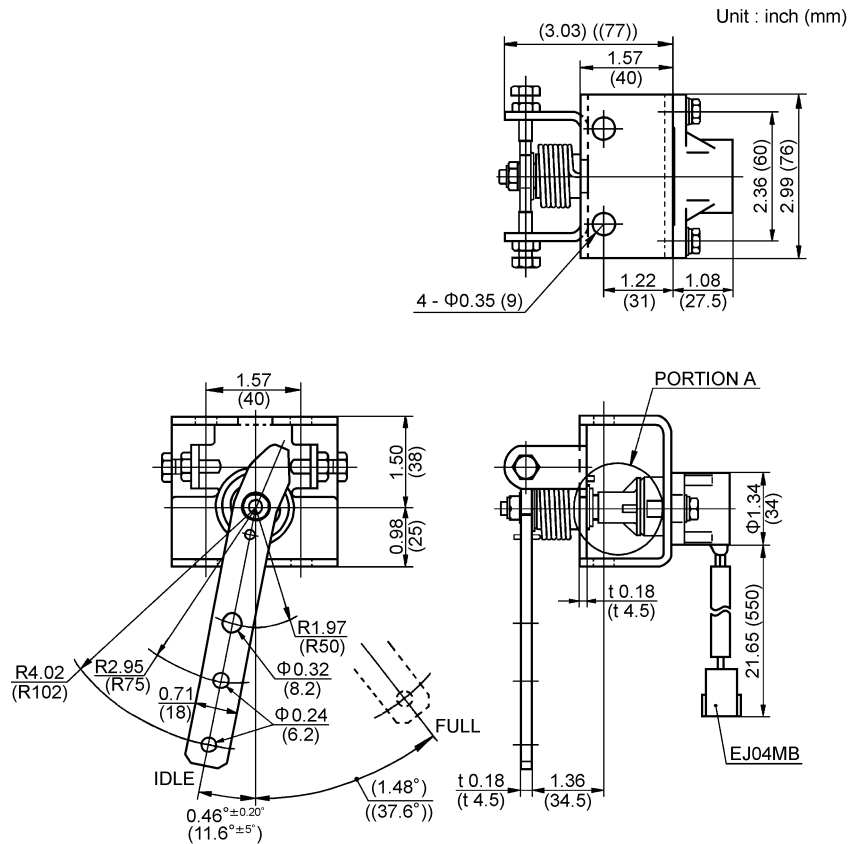

Fig. 1 Engine control lever (25960 ND00A)
- Bracket must be manufactured by the body manufacturer. For detail concerning the control lever installation hole dimensions, refer to Fig. 1.
- Install the control lever at a position where water is not directly splashed. Especially, in the cases (including car wash) where water is splashed directly on the coupling in the lever (at the portion A in Fig. 1), put a cover on it.